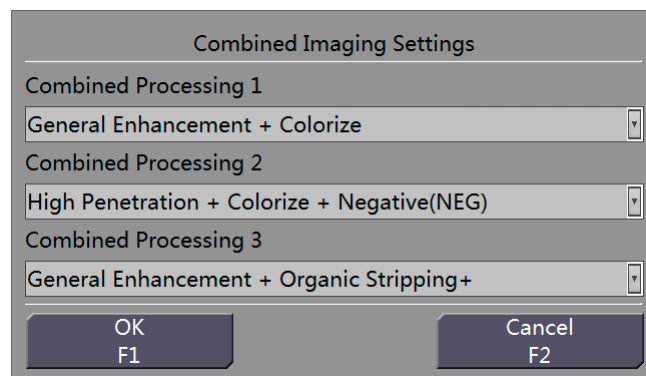

Figure 18-3 Combined Imaging Settings
Step 6 To set combined keys, click “Advanced” to display an interface, as shown in Figure 18-3.